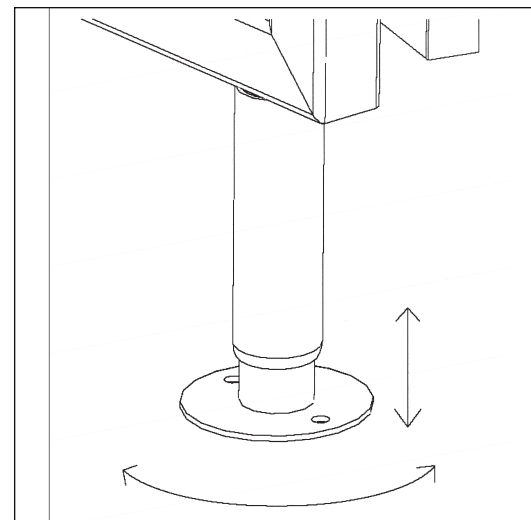

FIGURE 1
| Illustration (Leg Adjustment), Figure 1 | 1 |
4. Place cabinet on level floor. (For cabinets with legs, adjust the legs of the cabinet to ensure proper fit of rack into cabinet. See Fig. 1)